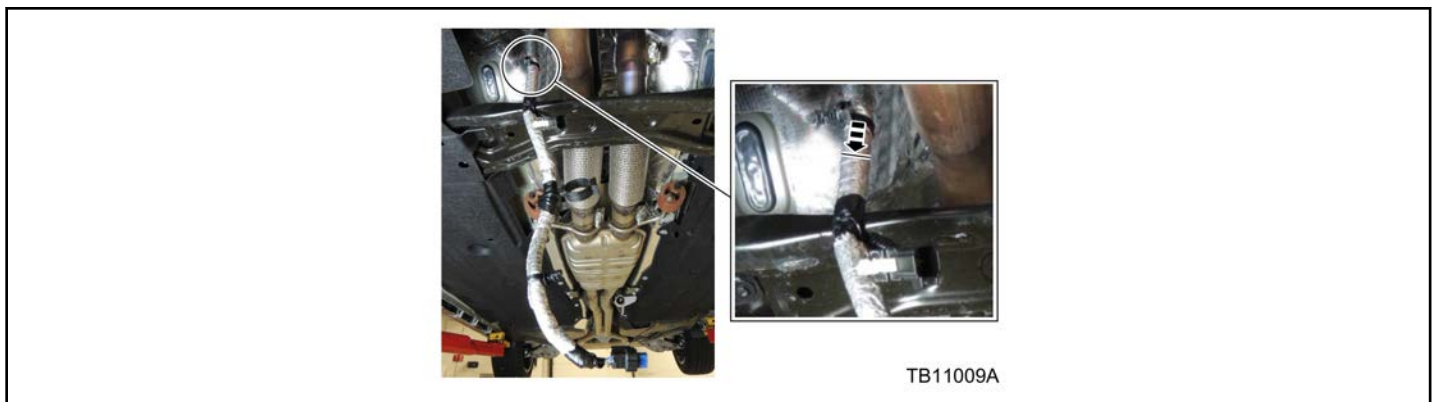

Figure 2 - Article 16-0159
10. Repair the wire concern. Refer to cell 5 in the Wiring Diagram (WD). The wiring harness should also be wrapped with Rotunda Technician Tool Program (RTTP) Coroplast wiring harness tape or equivalent.
11. Add a new wiring harness retention clip to the harness 20 mm (13/16") closer to the PTU from the original clip. This will move the harness away from the PTU to prevent chafing on the PTU housing. Remove and discard the original retention clip. (Figure 2)